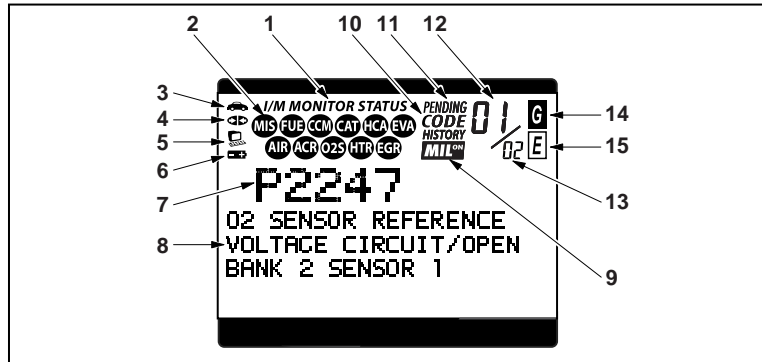

Figure 2. Display Functions
See Figure 2 for the locations of items 1 through 16, below.